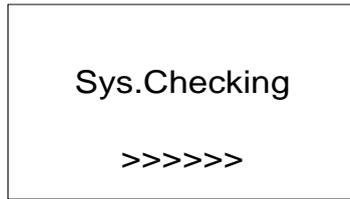

Figure 5-1 System self check ongoing
- (1) System check mode for start up, as shown in Figure 5-1: